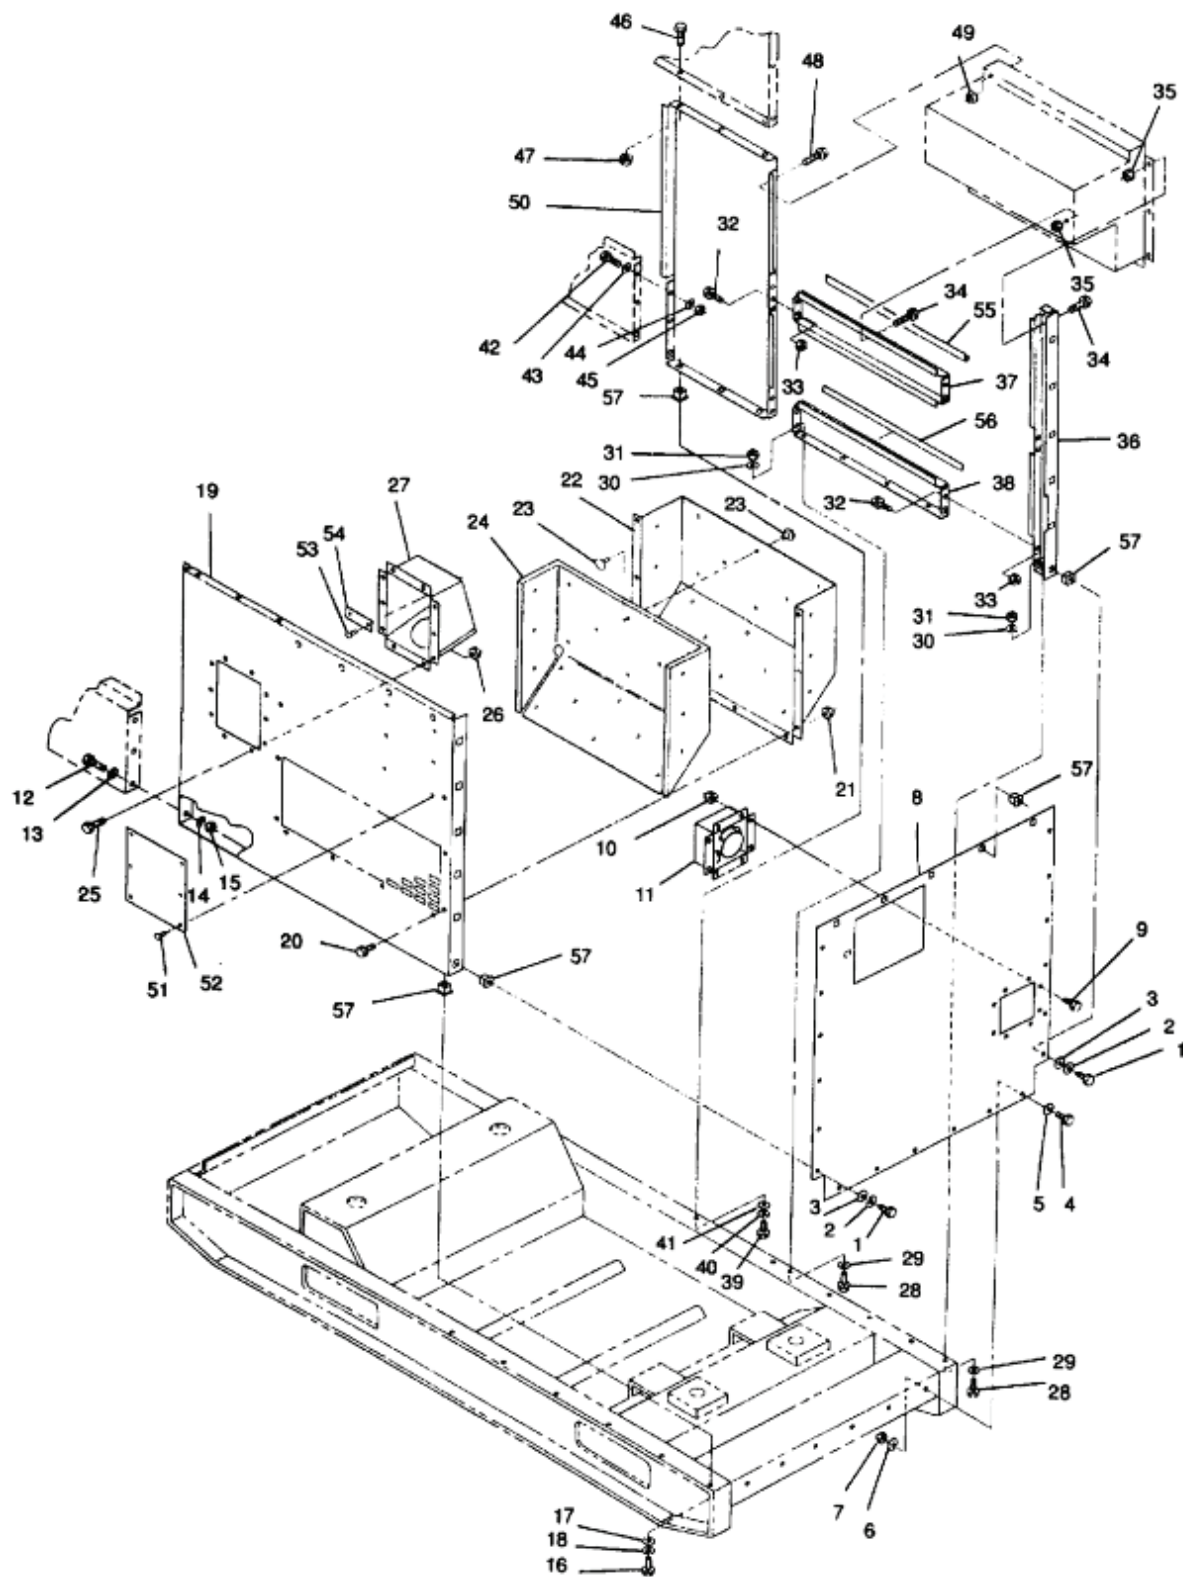

Figure 1. Generator Set Rear Housing Section.
3. Inspect all cage nuts (Figure 1, Item 57) for cracking or stripped threads.
5. Inspect EMI seals (55) for tears, looseness, and deterioration.
6. Inspect door seals (56) for tears, looseness, and deterioration.
3. Repaint surfaces in accordance with TM 43-0139. (F) Use applicable directives.
4. Replace all cracked or stripped cage nuts (Figure 1, Item 57).
5. Replace damaged insulation (24) and missing clip halves (23). Refer to WP 0129 for fabrication of insulation.
6. Replace EMI seals (55) that are loose or show any evidence of damage.
7. Replace damaged door seals (56).
1. If removed, install plate (Figure 1, Item 54) on fuel tank filler neck panel (27) with rivets (53).
2. If removed, install plate (52) on left side rear panel (19) with rivets (51).
3. Install right side panel (50) on generator set with bolts (39, 42, 46, and 48), flat washers (41 and 43), new lockwashers (40 and 44), nuts (45), and assembled nuts (47 and 49).
4. Install door sills (37 and 38) and corner post (36) on generator set with bolts (28, 32, and 34), flat washers (29), new lockwashers (30), nuts (31), and assembled nuts (33 and 35).
5. Install fuel filler neck panel (27) on left side rear panel (19) with bolts (25) and assembled nuts (26).
6. Install insulation (24) on baffle (22) with clip halves (23).
7. Install baffle (22) on left side rear panel (19) with bolts (20) and assembled nuts (21).
8. Install left side rear panel (19) on generator set with bolts (12 and 16), flat washers (13 and 17), new lockwashers (14 and 18), and nuts (15).
9. Install load entrance box (11) on rear panel (8) with bolts (9) and assembled nuts (10).
10. Install rear panel (8) on generator set with bolts (1 and 4), flat washers (3 and 5), new lockwashers (2 and 6), and nuts (7).
11. If removed, install output box EMI seals (55) on door sill (37), corner post (36), and right side panel (50) with adhesive (WP 0159, Item 2). Ensure closed side of seal faces outward.